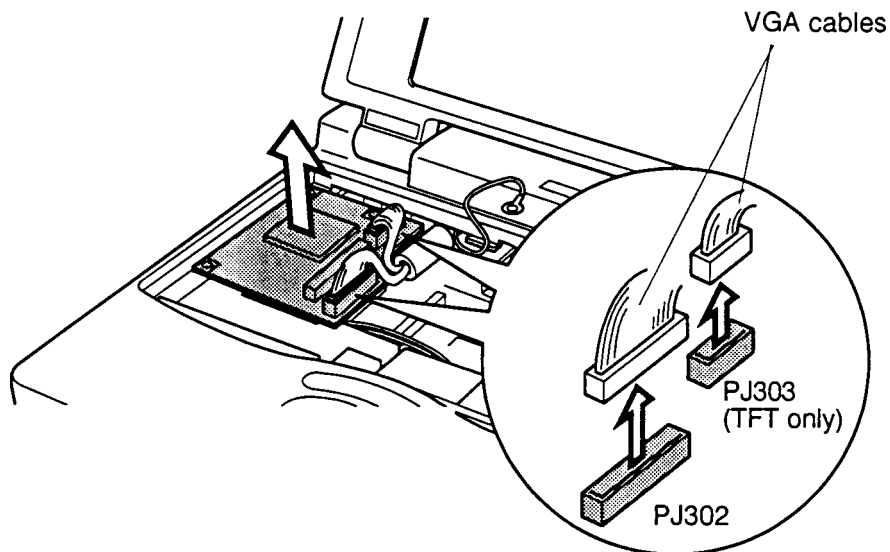

Figure 4-25 Disconnecting the cables from the VGA board
3. Connect the **microphone cable** to **PJ3** on the sound board. Route the cable in a groove on the top cover and secure it with two tapes (Figure 4-25).